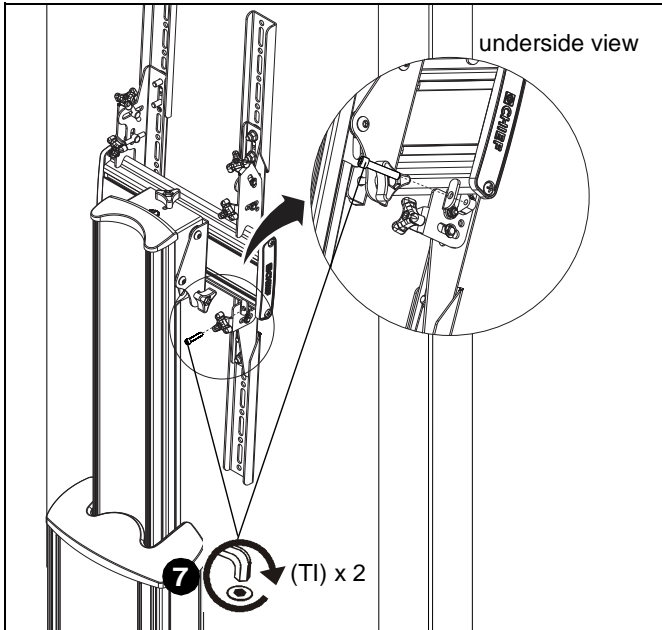

Figure 6
6. Hang interface brackets (A and B) to interface head assembly (E). (See Figure 6)
7. Use 1/4-20 x 1 1/4" socket head cap screws (T1) to secure interface brackets (A and B) to rails for each display. Screws must engage through both holes to be fully secured. (See Figure 6)